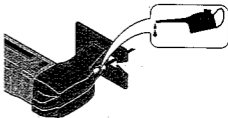

Fig. 4
1. Regularly lubricate reciprocating plunger with several drops of engine oil, after approx. 30 min. running time (Fig. 4).